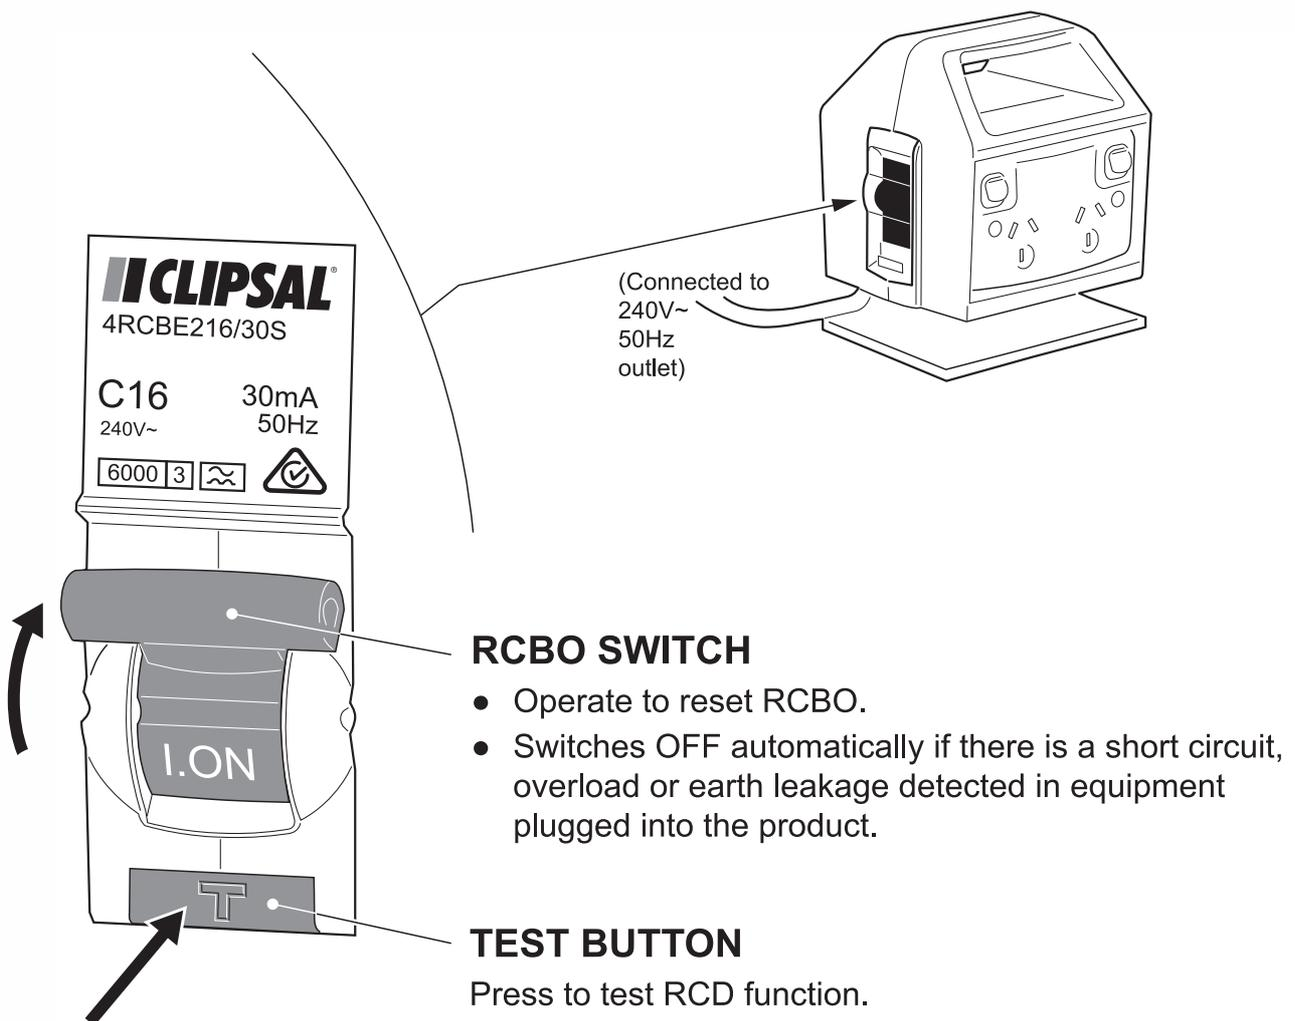

Fig. 1
3. Lift the flap on the side of the product and switch ON the RCBO (Fig. 1)
4. To confirm that the RCBO is functioning correctly, press the test button (Fig. 1). The RCBO should automatically switch OFF.
5. Switch ON the RCBO switch (Fig. 1).